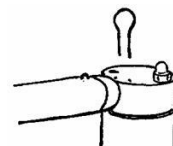

fig. 25
- Slide the Whipping Assembly into the housing, turning lightly. Turn and move the Whipping Pipe back and forth until the Locking Device can be inserted all the way. (fig. 25)